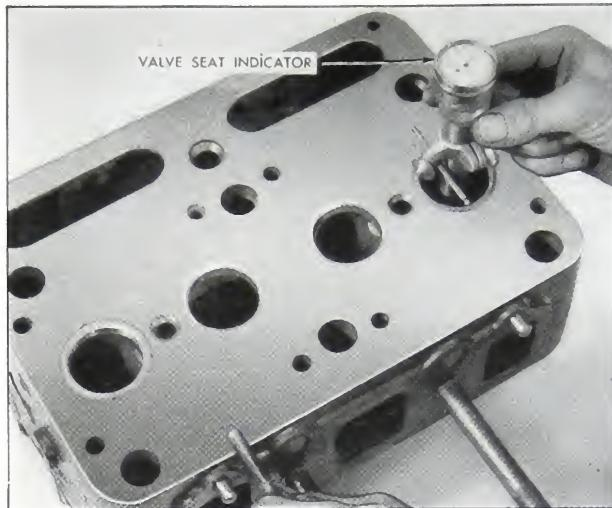

Fig. 3-18. Checking valve seat
7. After valve seats are finish ground, check guide alignment with eccentric meter as shown in Fig. 3-18. The gauge must be a perfect fit on the pilot mandrel. Run-out should not exceed .001 inch.